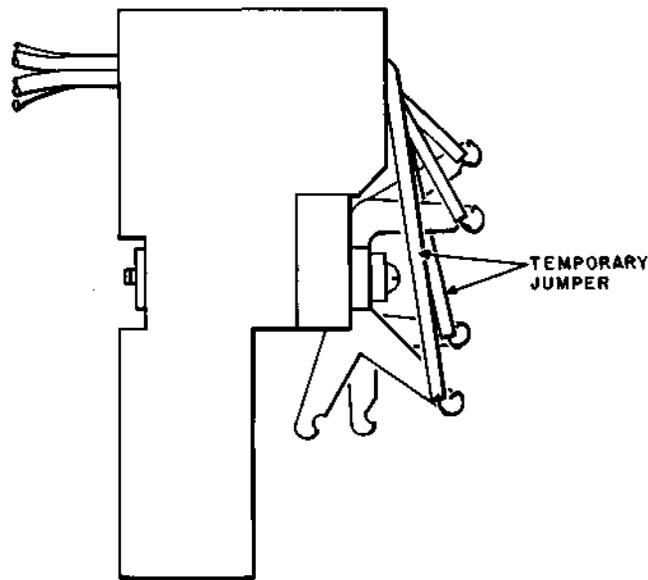

Fig. 15—Temporary Cross-Connections on No. 65 or Similar Type Terminal Strip Without Back Notch Terminals
**12.06** The temporary jumpers should be connected to the extra terminals as shown in Fig. 15. Where local instructions specify that either the upper or lower terminals should be used for the